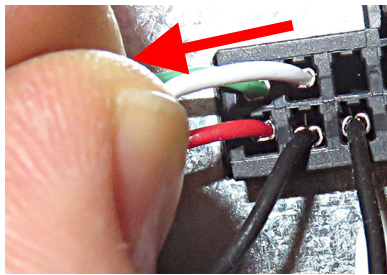

Figure 24
29. Gently tug on all wires to ensure they are locked into the connector (see Figure 24).